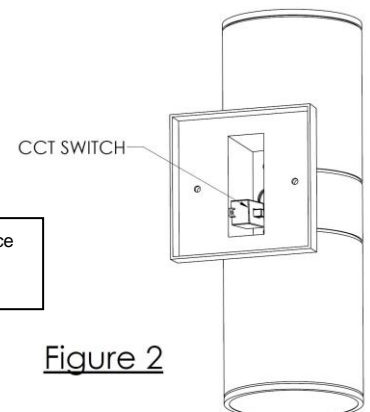

Figure 2
- Connect the white wire from the fixture to the white (N) wire from the supply power source.
- Connect the black wire from the fixture to the black (L) wire from the supply power source.
- CCT switch is located on backside of fixture per Figure 2. Adjust switch to desired temperature of 3000K, 3500K, or 4000K as seen below. Tuck switch gently back inside the cavity. Note: Fixture is preset to 3000K from factory.
- Install the fixture (3) by aligning the front hole with the threaded studs (5) then using two barrel nuts (4) to secure it.
- Apply a small amount of silicone (not included) per manufacturer's recommendation around the perimeter of the fixture (3) where it contacts with the surface of the wall but not on the bottom.